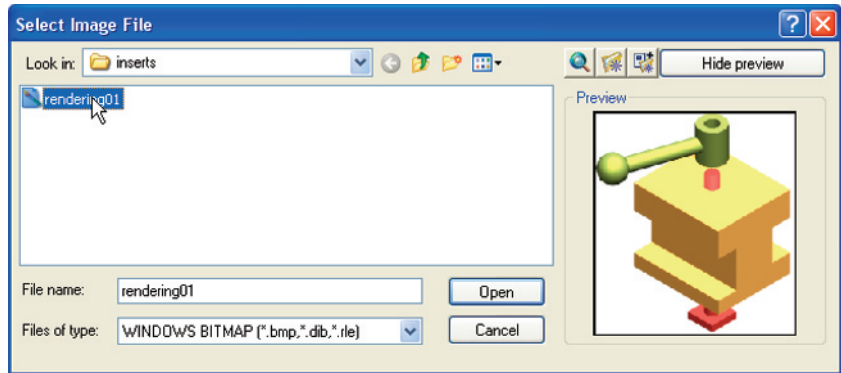

Fig. 10.10 The **Select Image File** dialog
1. *Click* **Raster Image Reference...** from the **Insert** drop-down menu. The **Select Image File** dialog appears (Fig. 10.10). *Click* the file name of the image to be inserted, in this example **rendering01.bmp**. A preview appears in the **Preview** area of the dialog.